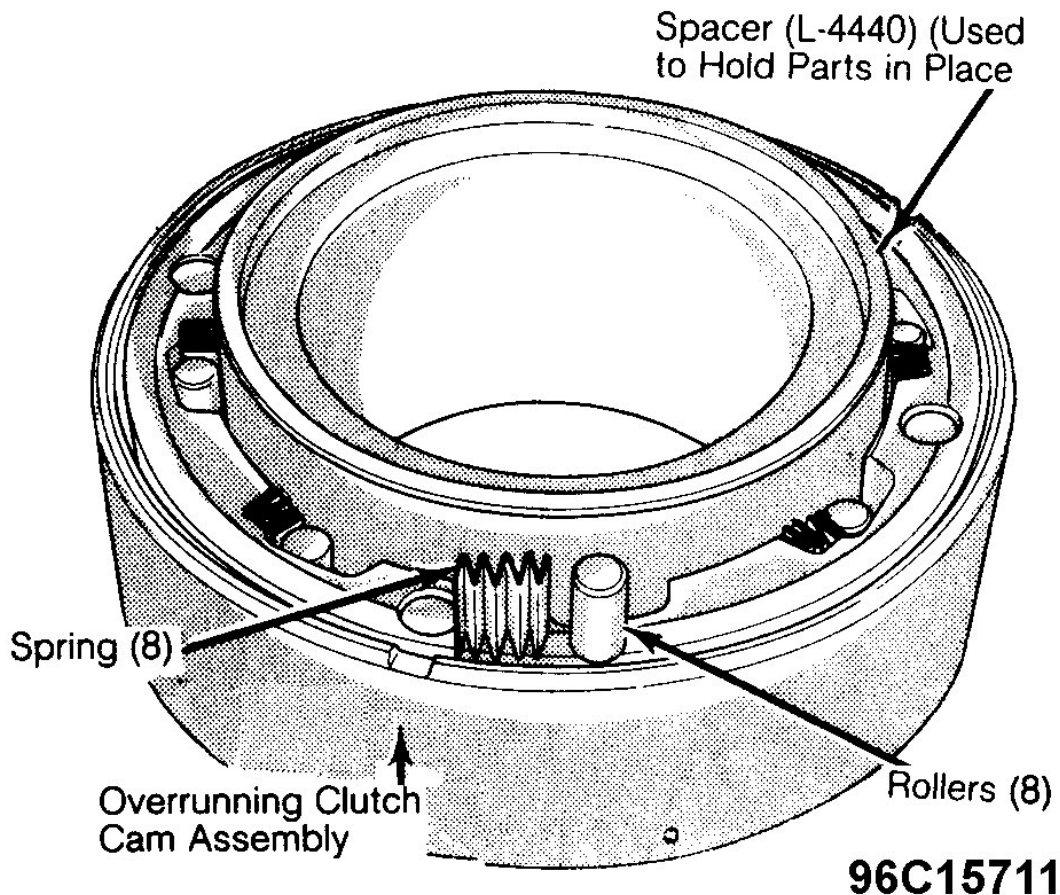

Fig. 29: Installing Rollers & Springs in Overrunning Clutch Cam Assy.
1. Position rollers and springs in overrunning clutch cam using Spacer (L-4440) to hold them in place. See **Fig. 29** .